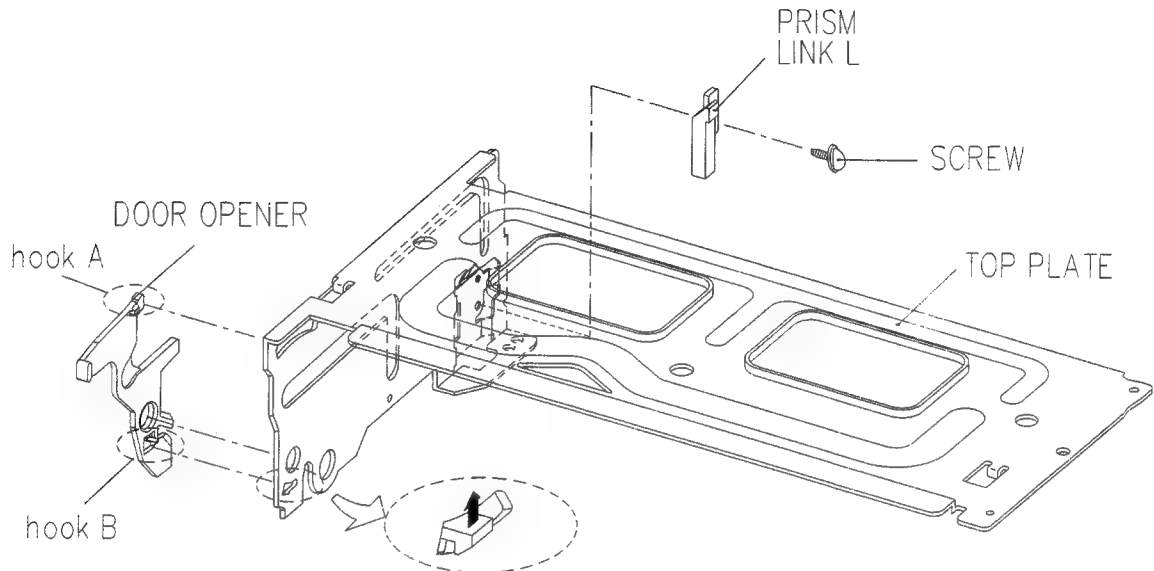

Fig. 3-4 DISASSEMBLY OF THE TOP PLATE
d. Remove one screw holding the PRISM LINK L (Fig. 3-4)
e. Release the hook B by pushing it in the direction of the arrow and remove the DOOR OPENER. (Fig. 3-4)